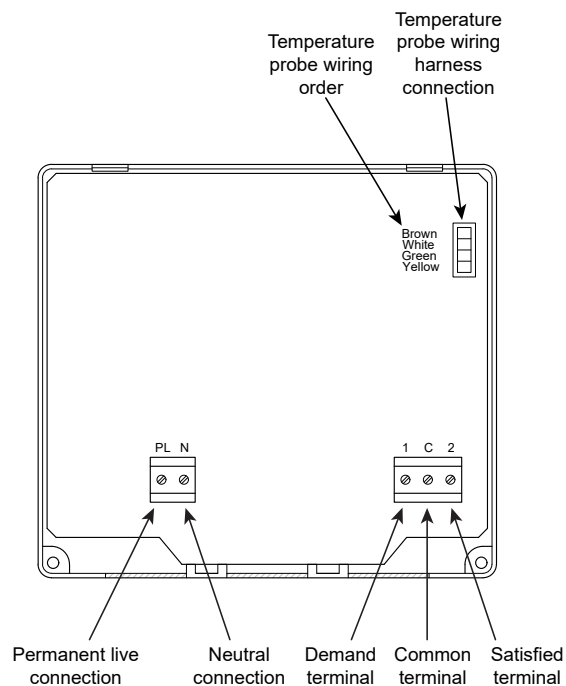

Figure A-3: Digital Dual Thermostat - Rear View
3. Ensure that the temperature sensor is correctly connected to the thermostat. Refer to Figure A-3 for temperature sensor wiring details.